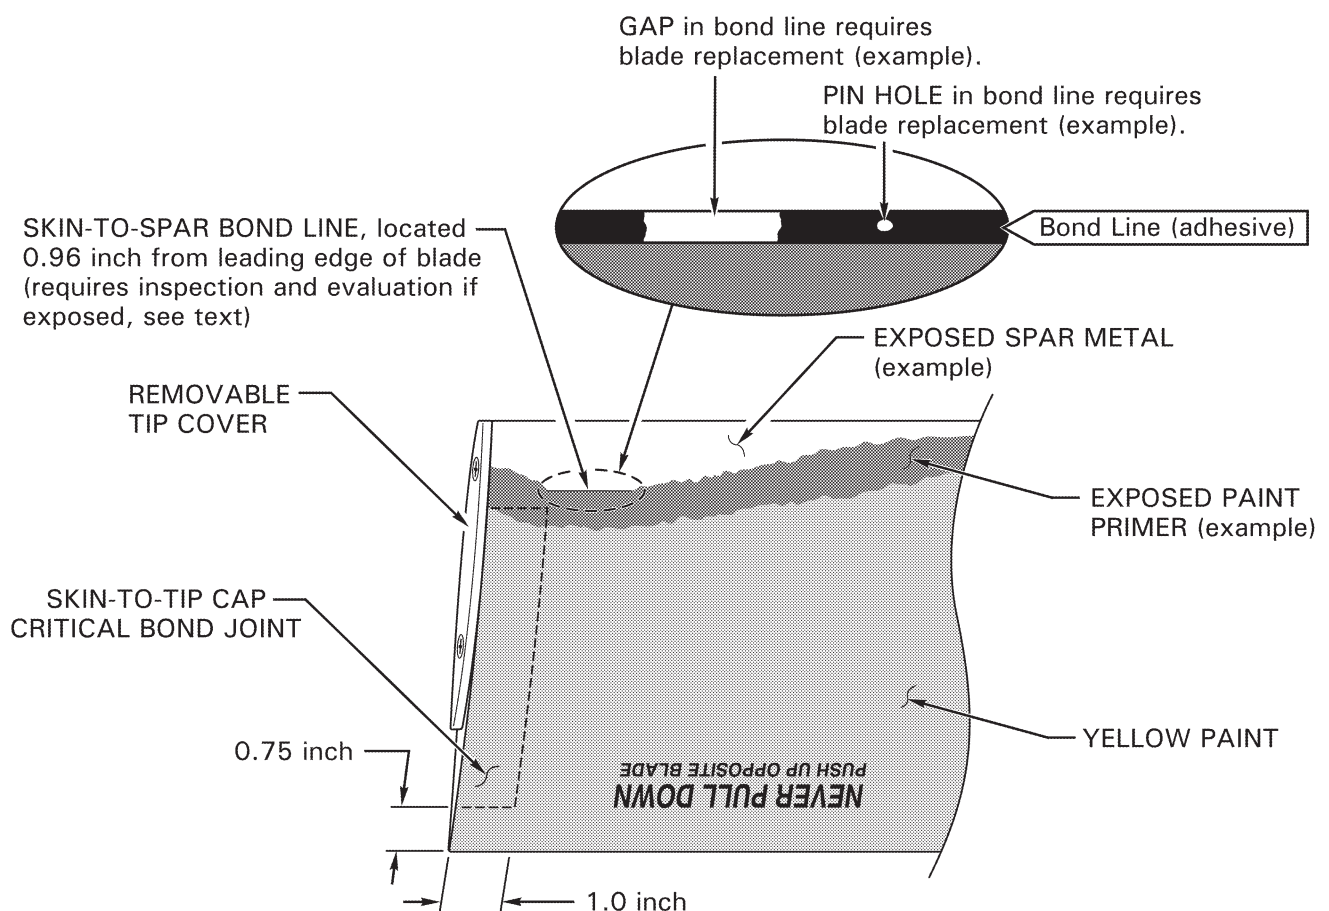

FIGURE 1 TIP AREA AND LOWER SURFACE
1. Refer to Figures 1 and 2. Remove both main rotor blade tip covers and clean the blades.